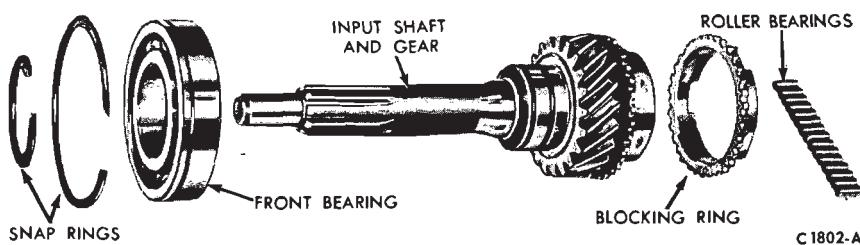

FIG. 15—Input Shaft Gear Disassembled
- Remove the snap ring that secures the bearing to the shaft (Fig. 15).
- Press a new bearing onto the input shaft with the tool shown in Fig. 15.